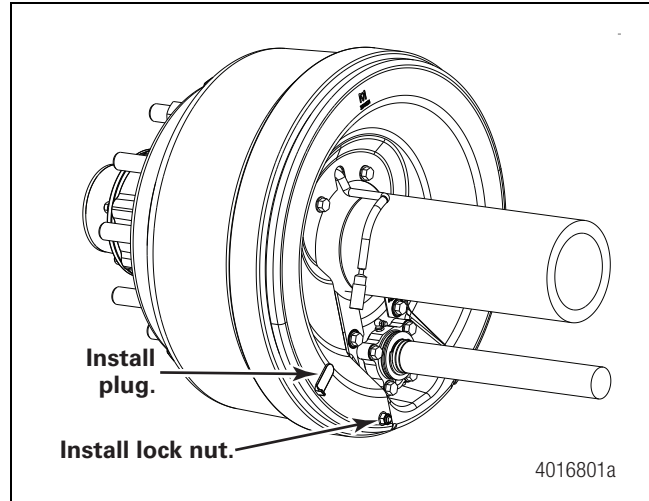

Figure 8
11. Install the brake shoe wear window plugs so that the plug's tab point away from the axle beam. This will allow easy access to the plug tab for removal and installation. Figure 8.